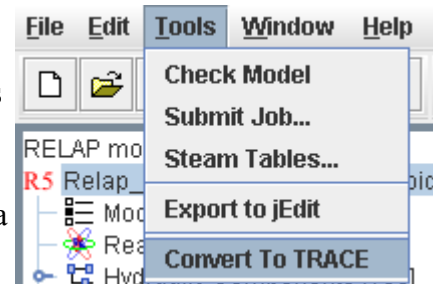

Figure 3: Convert Menu Item
3. Locate the ModelEditor **Tools** menu item and select option **Convert to TRACE** shown in Figure 3. This opens the conversion utility dialog with the category selection panel visible. This panel provides a listing of the model categories. The list will only display categories inside the model that contains components.